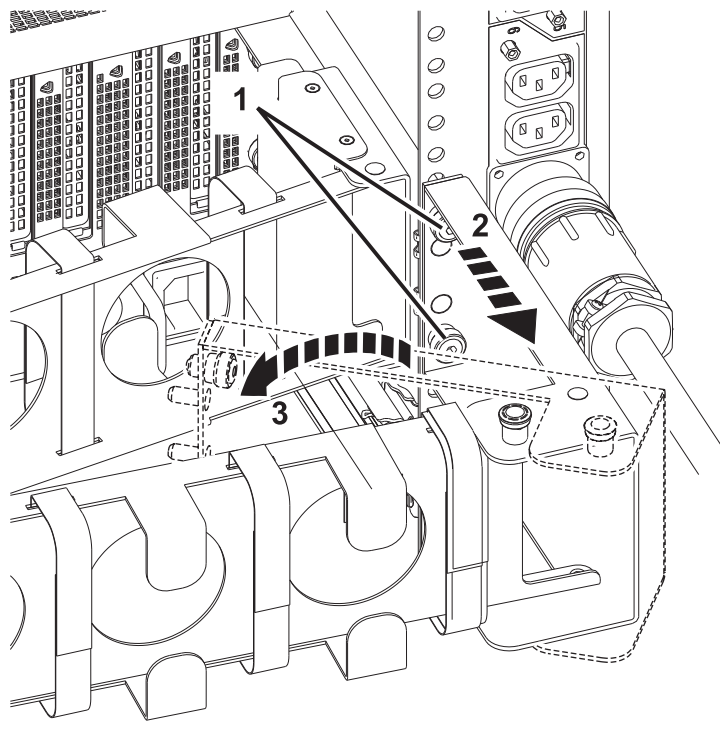

Figure 23. Steps to provide line cord clearance in a fully-populated system
- b. From the rear of the rack, loosen (but don't remove) the head screws (1). See Figure 23.
- c. Pull the cable management arm bracket toward you (2). See Figure 23.
- d. Pivot the cable management arm bracket to provide clearance (3). See Figure 23.